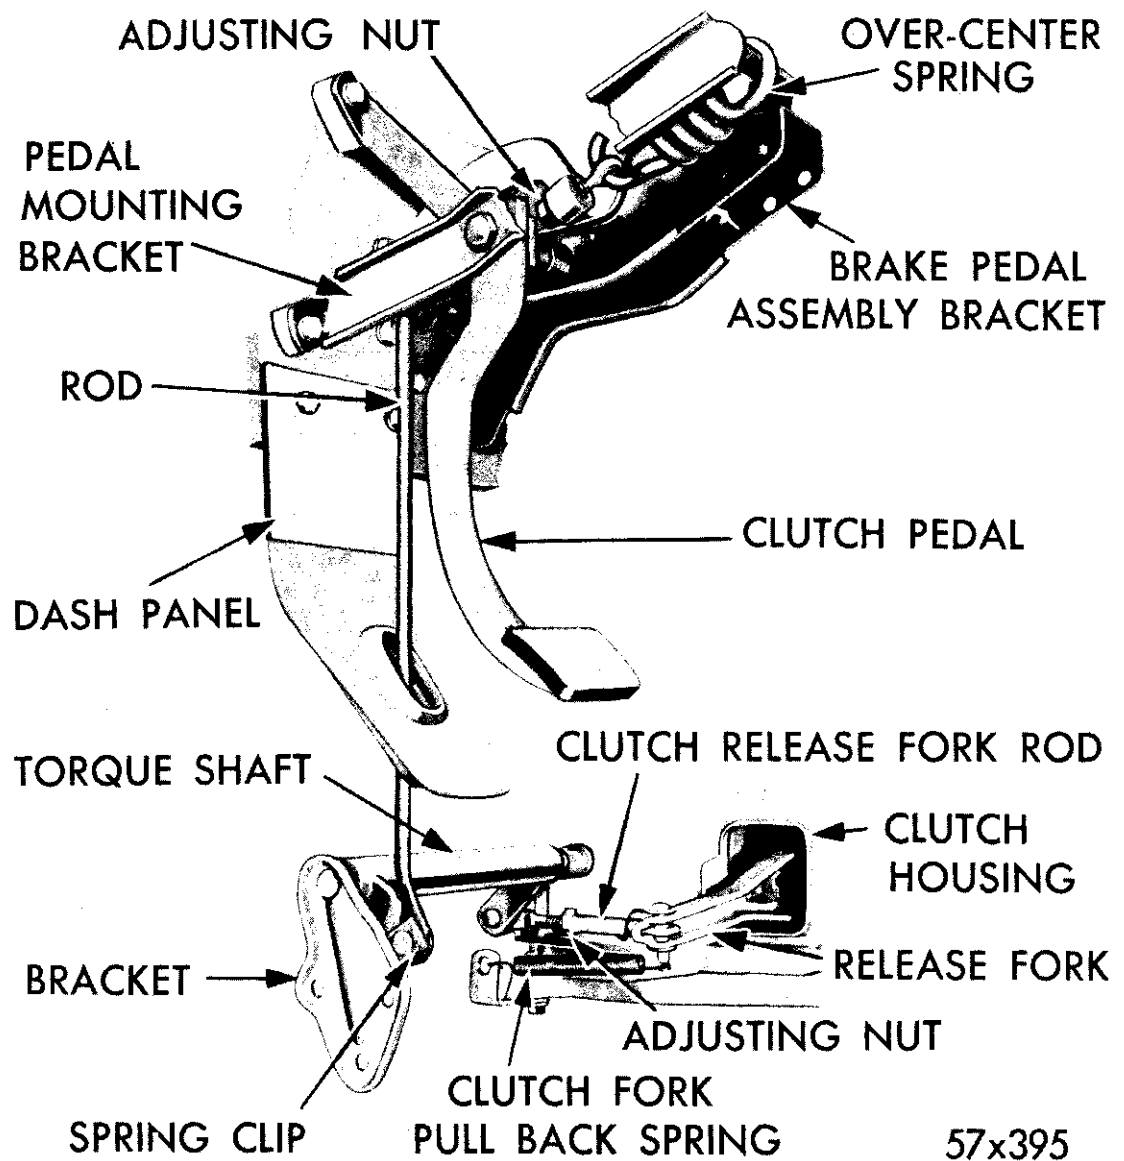

Fig. 1—Suspended Clutch Pedal and Linkage
Clutch pedal free play is movement of clutch pedal before the release bearing contacts the clutch fingers. To compensate for normal clutch wear, adjust the clutch release fork rod, as shown in Figure 1, to obtain $\frac{5}{32}$ inch free play of clutch release fork outer end. This will provide a one inch free pedal movement at the pedal, with a total of six inch pedal travel.
2. OVER-CENTER SPRING ADJUSTMENT (FIG. 1)
3. CLUTCH RELEASE FORK (FIG. 1) a. Removal
Unhook the clutch release fork pull-back spring (Fig. 1). Disconnect the rear end of the clutch release fork rod from the fork by removing the retaining spring and flat washer. Lift out the clevis pin and separate the clutch release fork rod from fork.
4. CLUTCH TORQUE SHAFT AND PIVOT BUSHINGS (FIG. 1)
Install arbor Tool C-870 to the flywheel attaching studs, as shown in Figure 1. Install indicator Tool C-869 so that the point of the indicator contacts bore of housing. The bore of the clutch housing should not vary more than .005 inch. Check the rear face of the housing, as shown in Figure 8. The tolerance must be within .003 inch. Rear face misalignment can be corrected by placing shims of proper thickness between the clutch housing and cylinder block, as shown in Figure 9. If alignment is necessary, remove the dowel pins and tap the housing until it comes within the specified tolerance. Ream new dowel pin holes with Tool C-860 and install oversize dowels. Tighten the housing bolts 50 foot-pounds torque. Failure to align clutch housing may result in hard shifting and jumping out of gear.